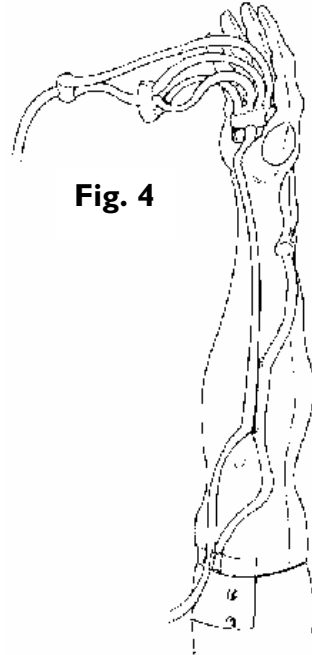

Fig. 4
5. Place new veins along grooves, (Figures 4 & 5) spot gluing as needed. (We recommend a fast-drying glue.)